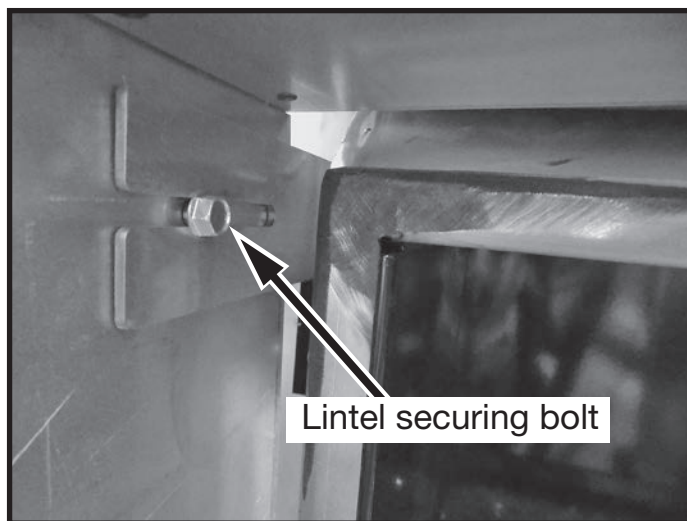
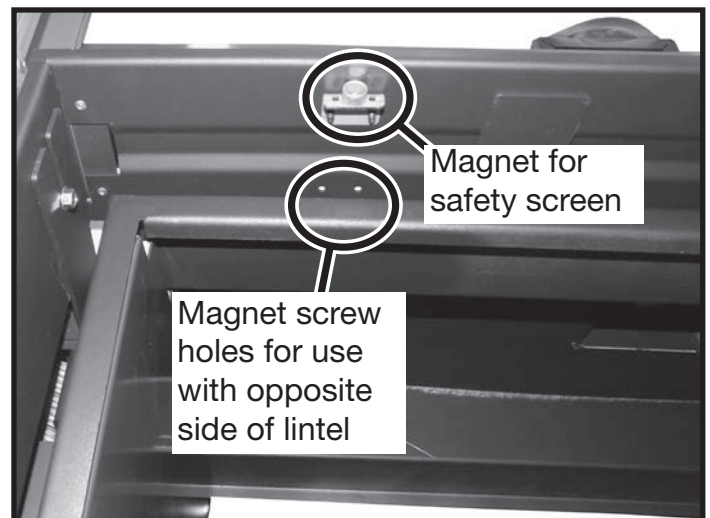

Figure 20: Lintel adjustment bolt.
Figure 21: Magnet for safety screen.
3. Loosen the securing bolts in the upper and lower corners on each side of the lintel (Figure 20) and remove the lintel. Remove the two safety screen magnets and secure them on the opposite side of the lintel (Figure 21).